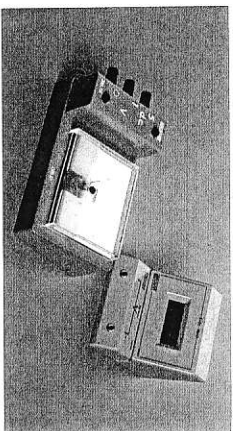

Figure 1
A voltmeter (Figure 1) measures the voltage drop in a circuit. The SI unit for voltage is the volt (V).